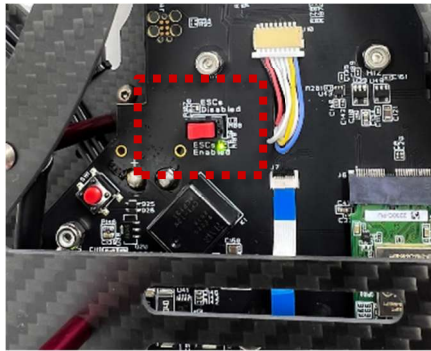

Figure 1. ESCs Enabled (motors allowed to spin)
2. Plug in and fasten a battery and turn ON the QDrone 2 using the red button. Place it at the center of the workspace with the front camera pointed away from the ground PC. Ensure that the ESC disable switch is turned **OFF** (that is, the ESCs are **ENABLED**, which is indicated by a **green LED lit** next to the switch) (Figure 1). Ensure netting is secured. Put on SAFETY GOGGLES. Note the IP in the LED screen after startup.